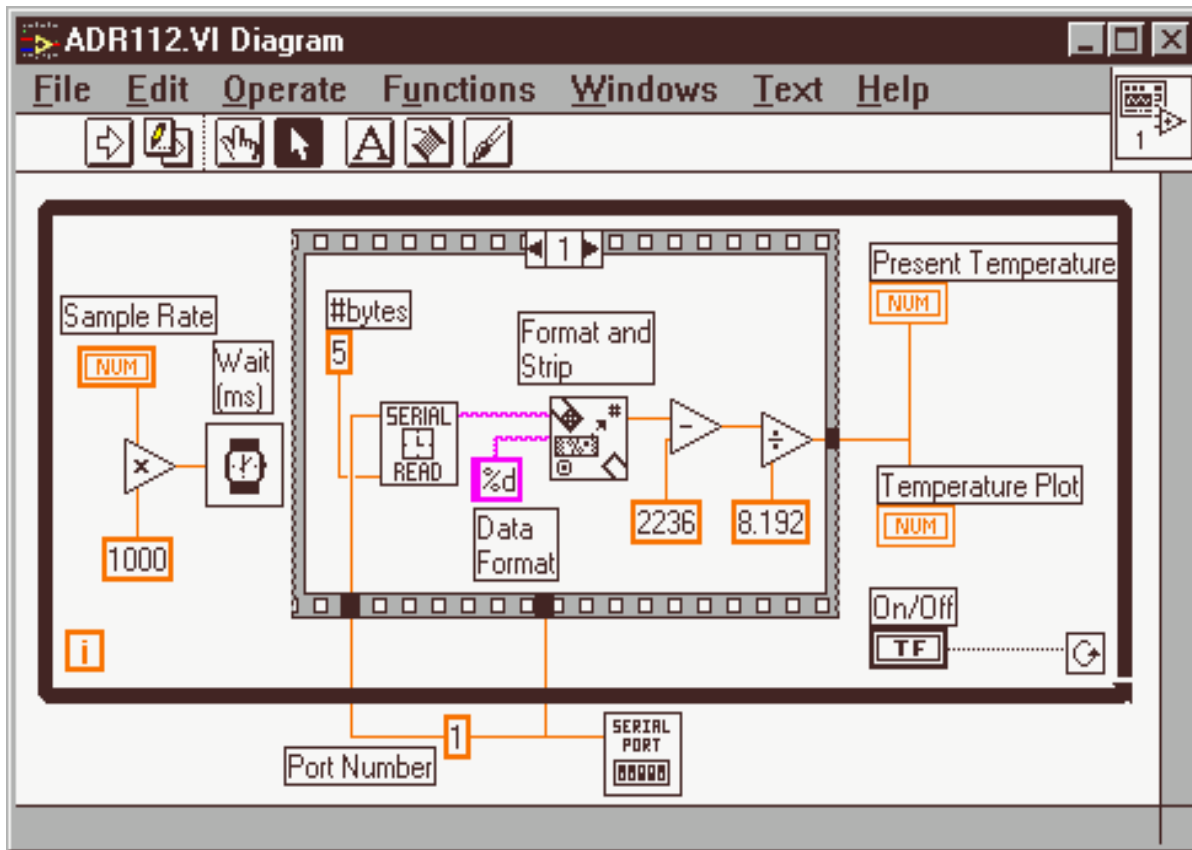

Figure 11 : The Final Code
- Finalizing the application involves converting the ASCII data to Celsius. This is done with a one arithmetic subtraction and one division function added to the second step in the sequencer as shown in Figure 11.